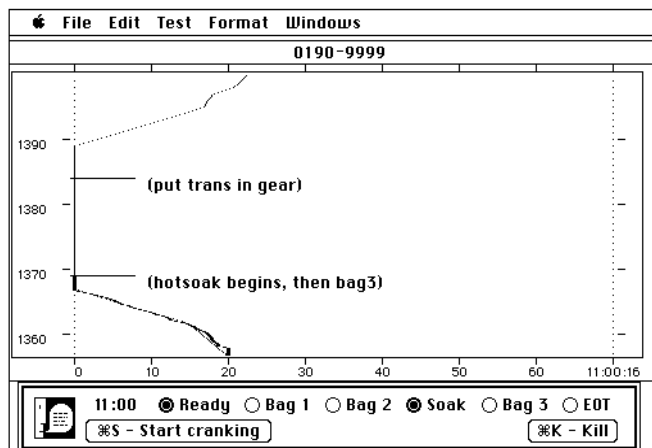

Figure 20
- 321 To start sampling, press <Command-S> and ensure that the "Bag 3" indicator is on; then crank the engine. See Figure 20.